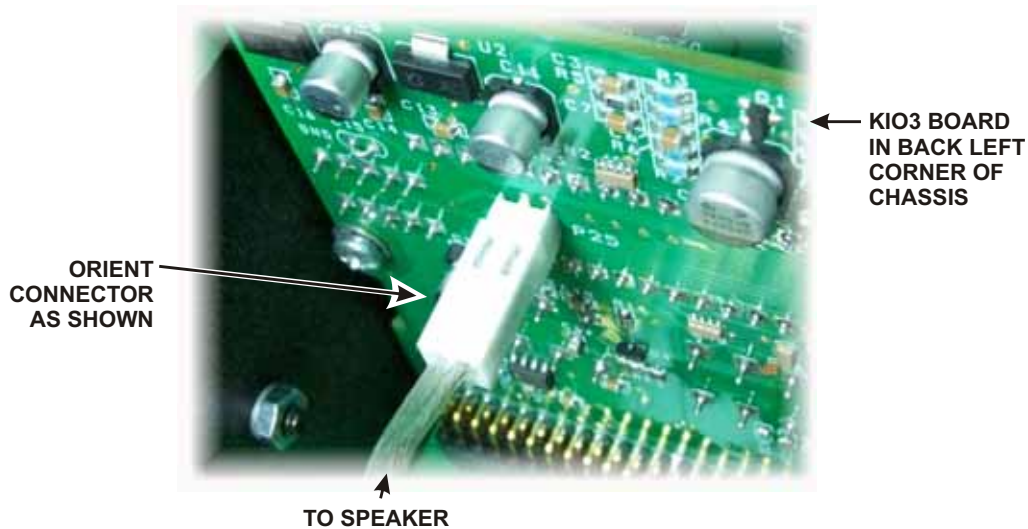

Figure 77. Connecting Speaker to KIO3 Board.
- Connect the speaker cable to P25 of the KIO3 board as shown in Figure 77. If you have the KPA3 shield installed, route the speaker wire under the stiffener bar.